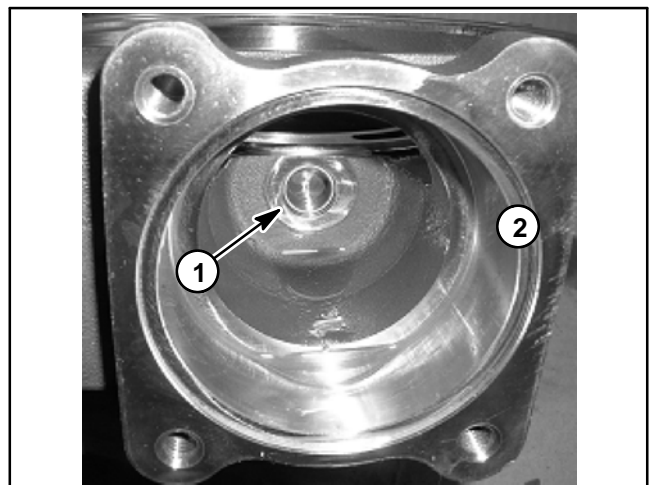

Figure 13
4. Inspect the inner pinion bushing in the gear case (Fig. 13). If the bushing is excessively worn, the gear case must be replaced. The bushing is not serviced separately.